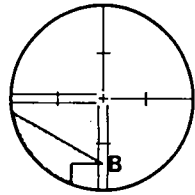

Fig. 13.13
- 2) Turn the telescope slowly upward with the vertical fine motion screw ⑩ until the target slides to the lower part B, Fig. 13.13. If the target is still centrally within the vertical lines, no adjustment is necessary. If necessary, adjust as follows.